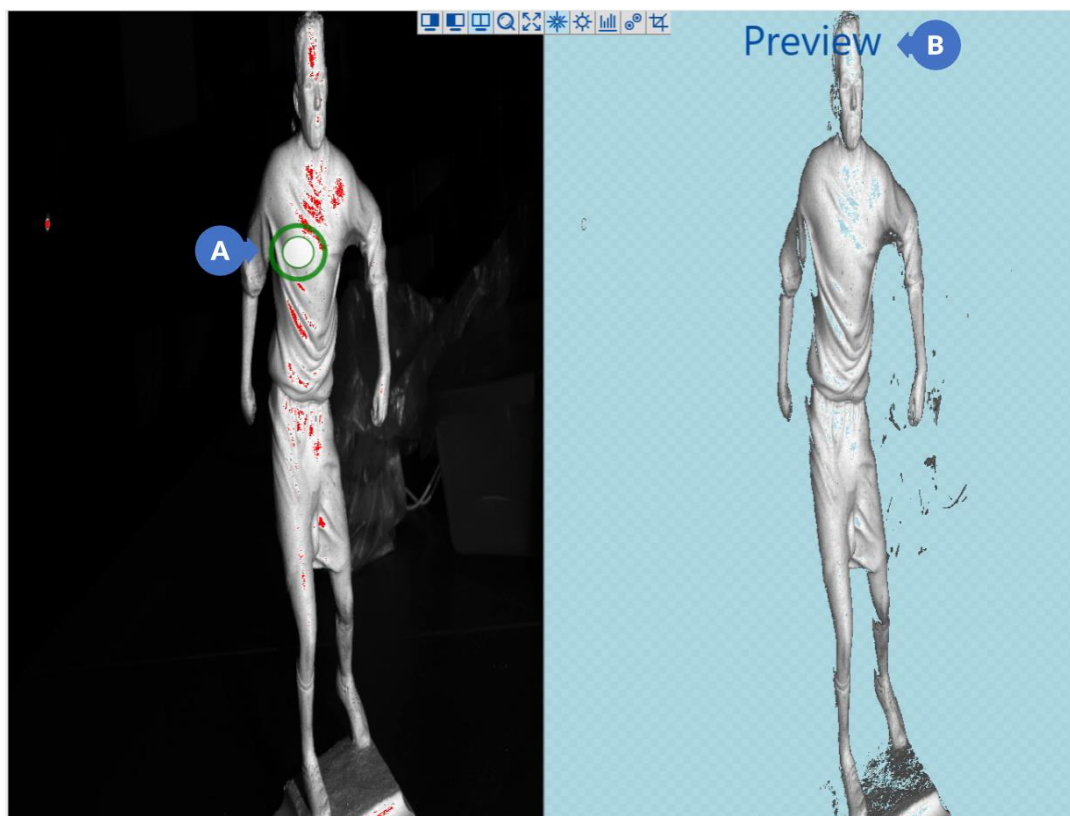

Figure 169. Automatic exposure using the single spot method
- (1) – *Single spot* is a mode in which the selection of the exposure is made by selecting a single point (marker) (A) in the preview window from the left camera. The preview window of the right camera (B) will show how the object will be scanned after the selected exposure based on the selected point (Figure 169),